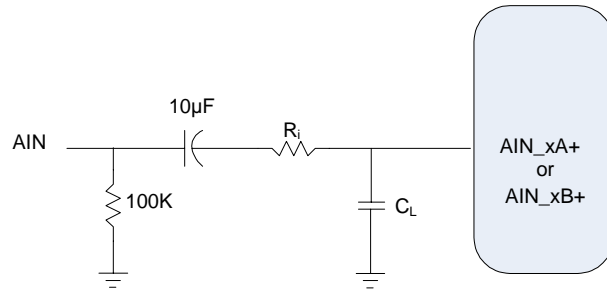
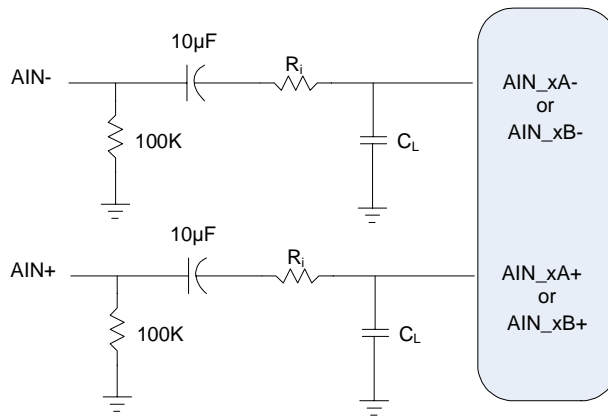

Figure 11. ADC Single-Ended Input Test Circuit
Figure 12. ADC Differential Input Test Circuit
(Test Conditions (unless otherwise specified): $T_A = 0$ to $+70^\circ\text{C}$; $V_{DD} = 1.8\text{ V} \pm 5\%$, V_{DDA} (V_A) = $3.3\text{ V} \pm 5\%$; 1 kHz sine wave driven through the passive input filter ($R_i = 10\text{ k}\Omega$) in Figure 11 on page 26 or Figure 12 on page 26; DSP running test application; Measurement Bandwidth is 10 Hz to 20 kHz.)
(Test Conditions (unless otherwise specified): $T_A = -40$ to $+85^\circ\text{C}$; $V_{DD} = 1.8\text{ V} \pm 5\%$, $V_{DDA} (VA) = 3.3\text{ V} \pm 5\%$; 1 kHz sine wave driven through the passive input filter ($R_i = 10\text{ k}\Omega$) in Figure 11 on page 26 or Figure 12 on page 26; DSP running test application; Measurement Bandwidth is 10 Hz to 20 kHz.)